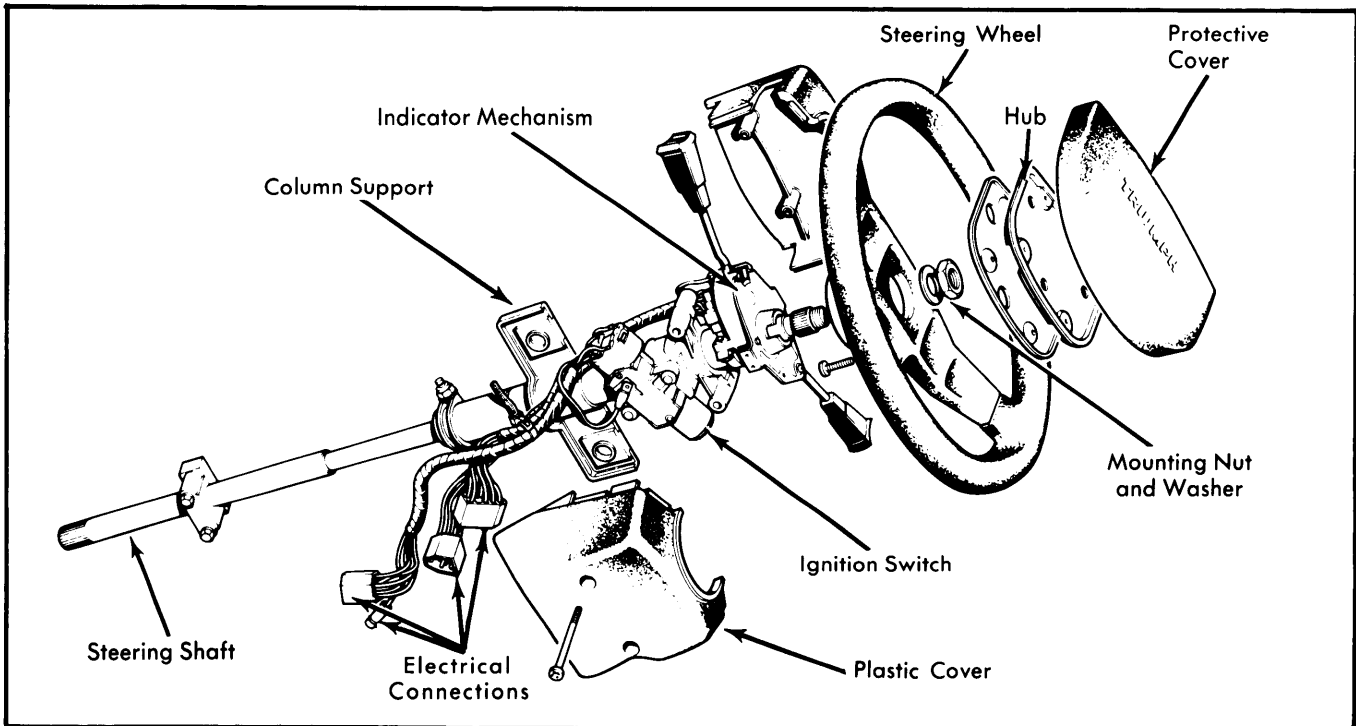

Fig. 1 Partially Disassembled View of TR7 Upper Steering Column
**Removal** - 1) Disconnect battery ground. Take out pinch bolt securing upper universal to steering mast. Disconnect electrical harness from steering column and separate plug connectors (Fig. 1). Remove plastic cover from around steering column.